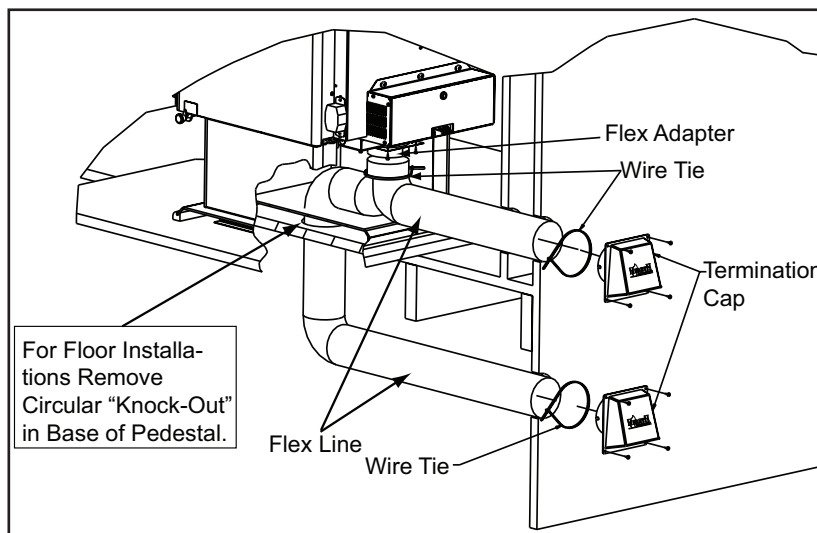
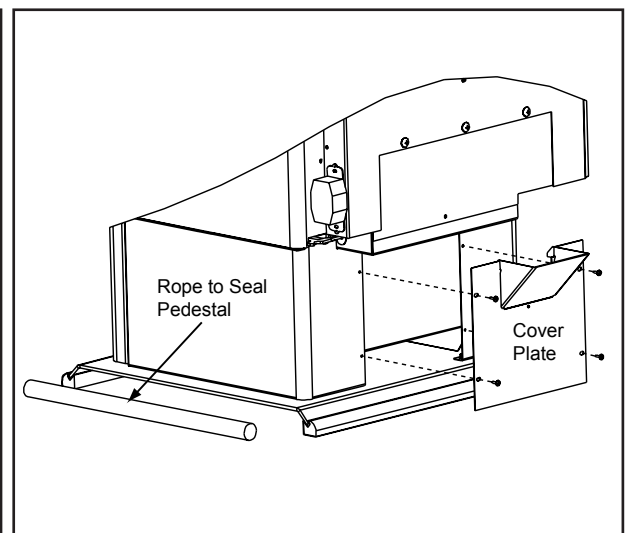

Figure 14.1 - Floor & Rear Installation
Figure 14.2 - Floor Installation Alternative
Included in SRV7033-041: Cover plate and sealing rope (see Floor Installation Alternative below, **Figure 14.2**)
2. Using a #2 Phillips screw driver attach the flex adapter to the stove using 4 screws. **Figure 14.1**
5. **Floor Installation Alternative:** In some instances you may not be able to install the flex pipe as show in **Figure 14.1**. If that is the case, you will need to order SRV7033-041 which includes a cover plate and sealing rope as shown in **Figure 14.2**. The goal is to seal the pedestal so no room air can leak into the pedestal or for cold air infiltration.